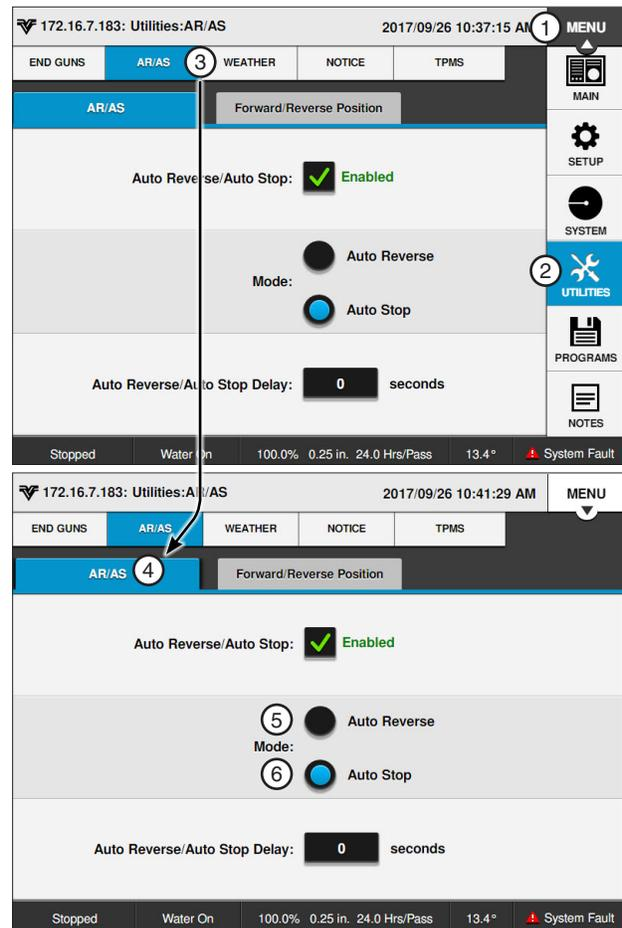

Figure 68-1 1. Menu
Auto Reverse Auto Stop (AR/AS) is used to enable Auto Reverse/Auto Stop, set the delay time when a machine is equipped with a drive-unit-mounted end-of-field stop/auto reverse and to set points at which the machine will switch directions. Refer to Figure 68-1.
- **Auto Reverse;** If AR/AS is on and the Auto Reverse/Auto Stop option is set to Auto Reverse, when the actuator arm is tripped or when the forward/reverse boundary is reached the machine changes direction, disables the percent timer, waits for the set AR/AS delay time and then enables the percent timer and continues running. Refer to Figure to Figure 68-1.
- **Auto Stop;** If AR/AS is on and the Auto Reverse/Auto Stop option is set to Auto Stop, when the actuator arm is tripped or when the forward/reverse boundary is reached the machine changes directions, disables the percent timer, waits for the set AR/AS delay time and then shuts down. Refer to Figure 68-1.